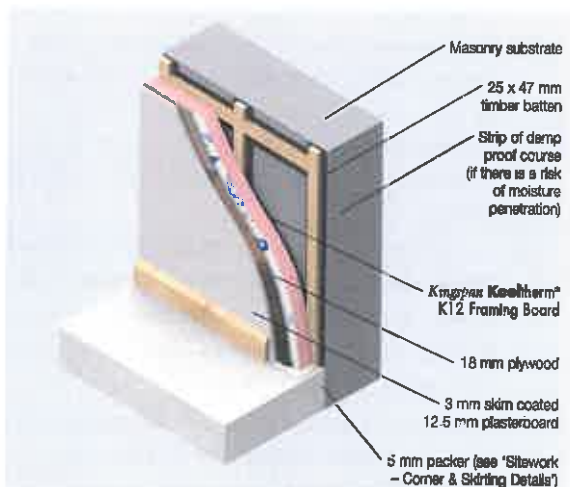

Figure 8
- Alternatively, where there are to be extensive heavy internal fittings, the construction outlined in Figure 8 can be adopted.